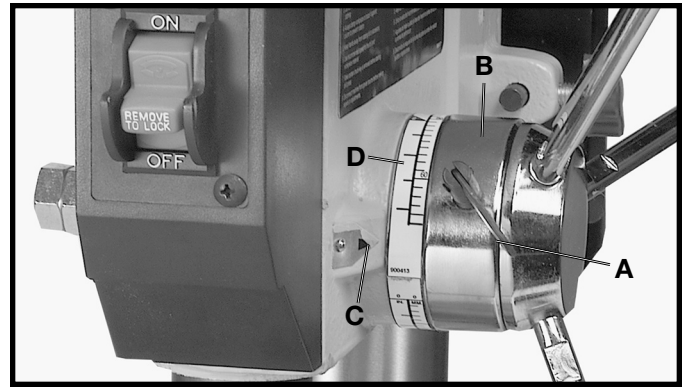

Fig. 29
2. Loosen lock screw (A) Fig. 29, and rotate pinion assembly (B) until the pointer (C) lines up with the mark on the scale (D) you wish the depth of the holes to be drilled. Then tighten lock screw (A).
4. Drill a test hole to check the depth and adjust if necessary. All holes will then be drilled to the exact depth as indicated on scale (D) Fig. 29. **NOTE:** Scale (D) is calibrated in both inches and millimeters.